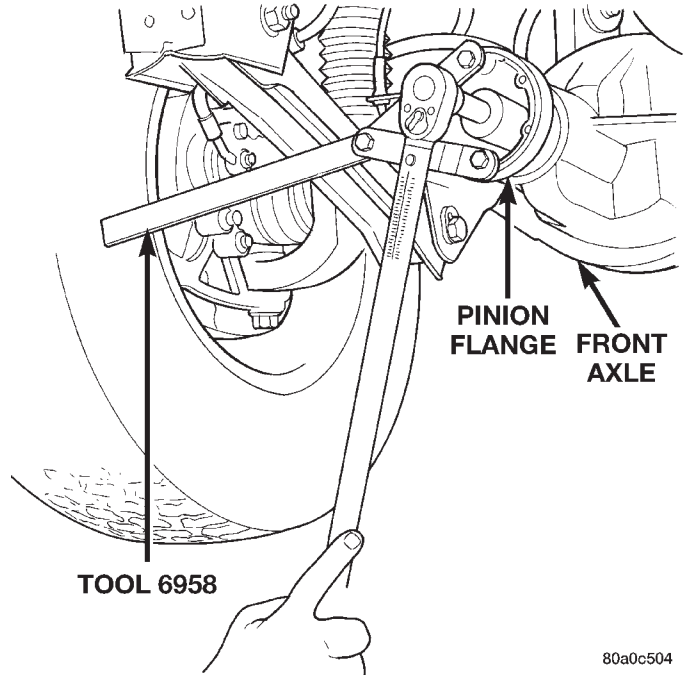

Fig. 35 Pinion Nut Removal
- (1) Remove differential assembly from axle housing.
- (2) Mark pinion companion flange and propeller shaft for installation alignment.
- (3) Disconnect propeller shaft from pinion companion flange. Using suitable wire, tie propeller shaft to underbody.
- (4) Using Holder 6958 to hold pinion companion flange, and a short length of 1 in. pipe, remove the pinion nut and washer (Fig. 35).
- (5) Using Remover C-452 and Holder C-3281, remove the pinion companion flange from pinion shaft.